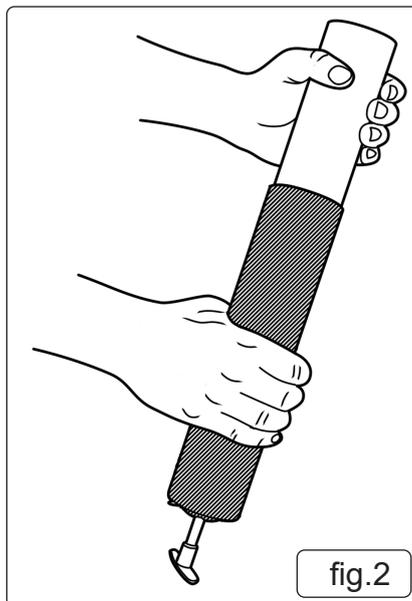

fig.2
4.3.3. Insert the open end of the cartridge into the grease tube and push it all the way in (Fig 2). Remove the seal or pull tab end from the cartridge.